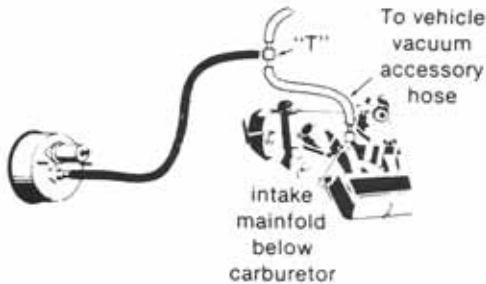

FIGURE 2
- a. Connect the vacuum hose to an accessory vacuum hose connected to the intake manifold (below the carburetor) by using the supplied "T" adapter as shown in Figure 2.